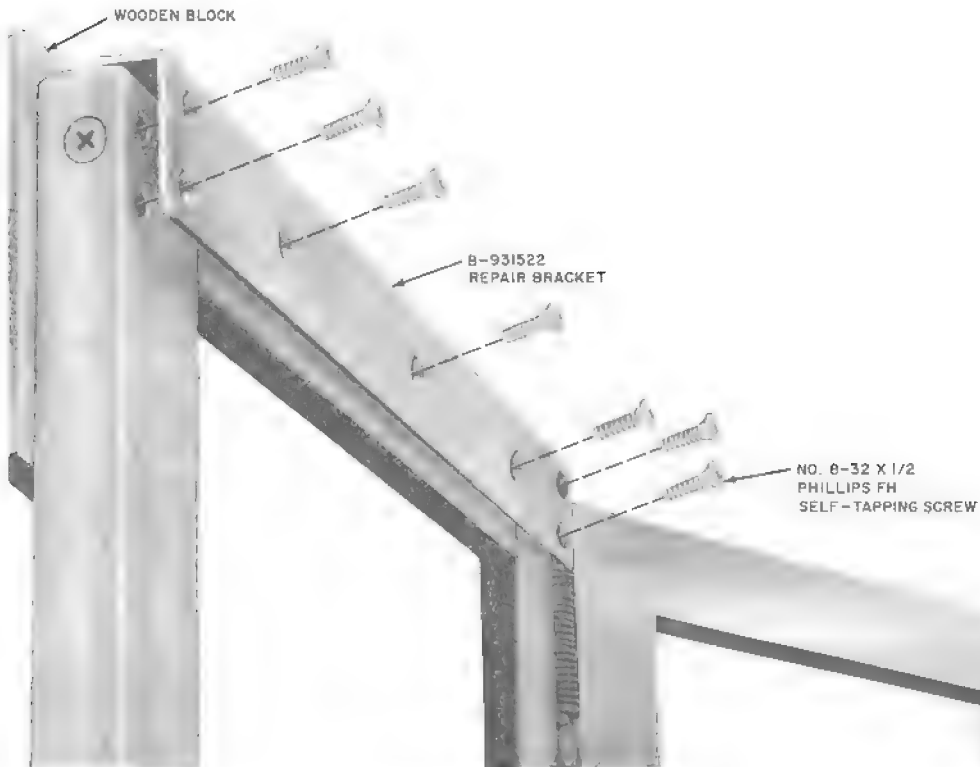

Fig. 27--Installation of Door Repair Bracket
4.08 Replace door sections that have broken mitered joints. Repair solid-type (one piece) sections. (See Fig. 27). Fracture usually occurs because of misuse, improper adjustment, or because booth is not level. Check the cause and repair as follows: